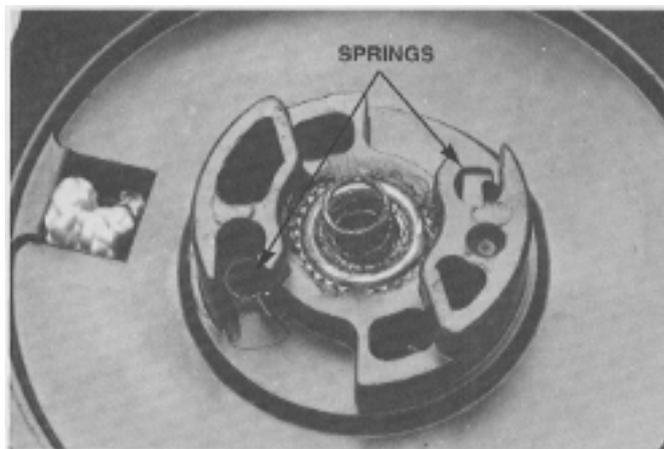

Figure 58
3. Install the engagement dog springs and the center spring as shown in Figure 58.